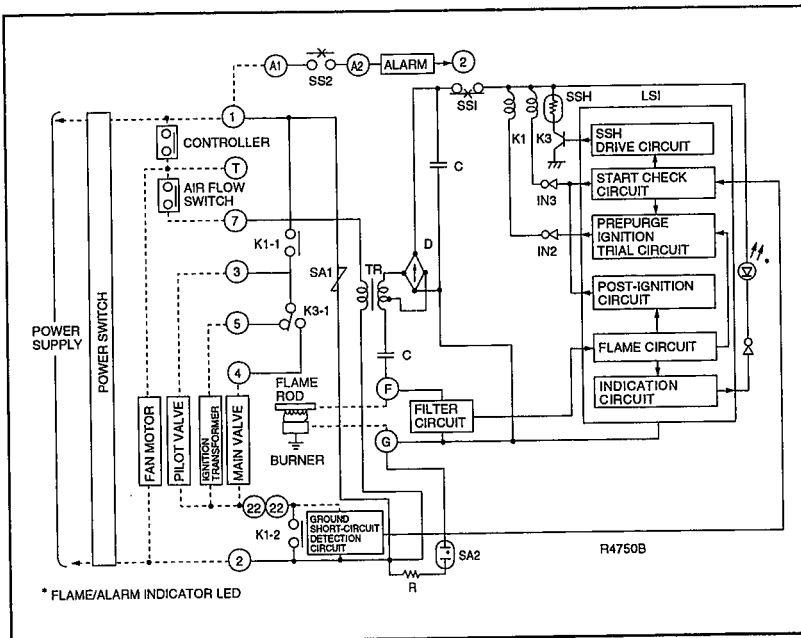

Fig. 7 Example of wiring to external equipment, and internal block diagram
1. Normal operation (see Figs. 7 and 8)